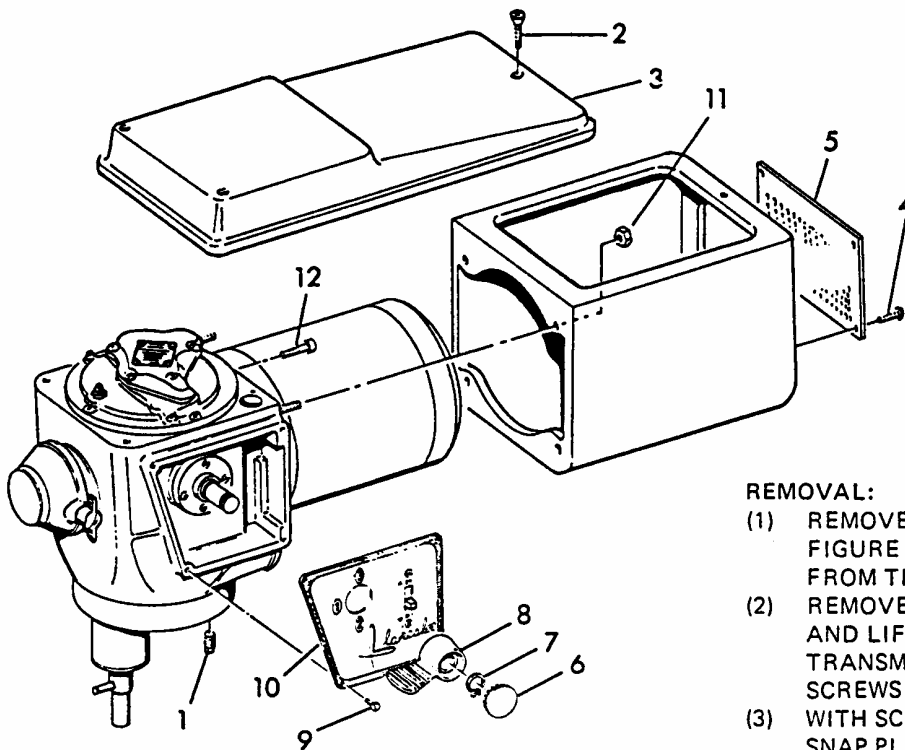

FIGURE 1
- (1) REMOVE DRAIN PLUG (1, FIGURE 1) AND DRAIN OIL FROM TRANSMISSION.
- (2) REMOVE THREE SCREWS (2) AND LIFT COVER (3) OFF TRANSMISSION. REMOVE SCREWS (4) AND SCREEN (5).
- (3) WITH SCREWDRIVER PRY OFF SNAP PLUG (6) FROM SHIFT LEVER. REMOVE SNAP RING (7) AND PULL LEVER (8) OFF CAM SHAFT. REMOVE SCREWS (9) AND DROP NAMEPLATE (10) AWAY FROM TRANSMISSION. TAG ELECTRICAL WIRES FOR REASSEMBLY IDENTIFICATION AND DISCONNECT WIRE LEADS FROM BACK OF TIMER OR TOGGLE SWITCH ON BACKSIDE OF NAMEPLATE.
- (4) USING SOCKET WRENCH AND 12 INCH EXTENSION REMOVE FOUR LOCK NUTS (11) AND SLIDE TRANSMISSION AND MOTOR ASSEMBLY OUT FRONT OF MOTOR HOUSING. REMOVE FOUR SOCKET HEAD CAPSCREWS (12) AND SEPARATE MOTOR ASSEMBLY FROM TRANSMISSION. USE CARE TO AVOID DAMAGING MOTOR GASKET.